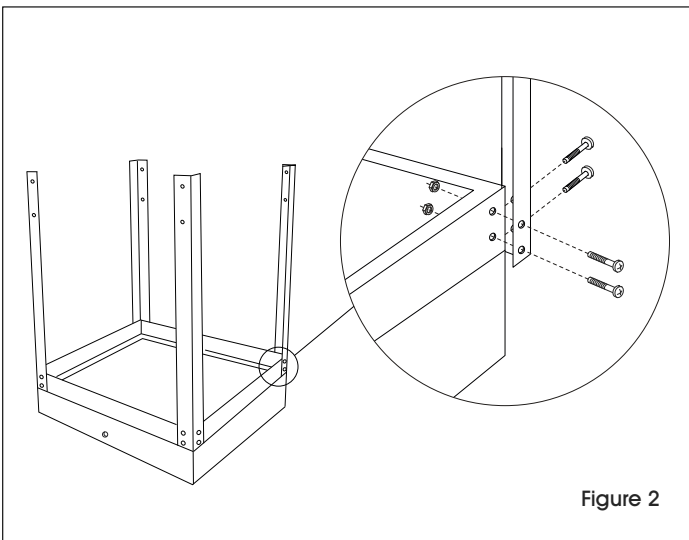

Figure 2
3. Attach legs to square bracket using 4 standard bolts and 4 nuts on each leg. (See Figure 2)